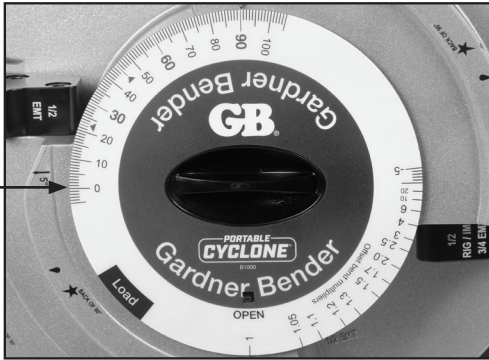

Figure 7. Indicator Arrow at Starting Position
8. Once the conduit is locked into its starting position, rotate the Angle Indicator Dial until the indicator arrow on the shoe lines up either with the 0 degrees mark on the dial or a certain number below 0 depending on the size and type of conduit being bent to account for spring back. **See "5.4 Spring Back Values". See Figure 7**